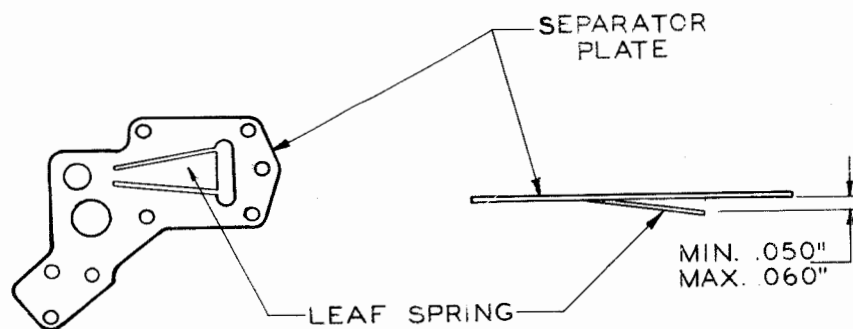

Figure 1
**To Adjust:** Bend the leaf spring at the narrow part. (See Figure 1.)